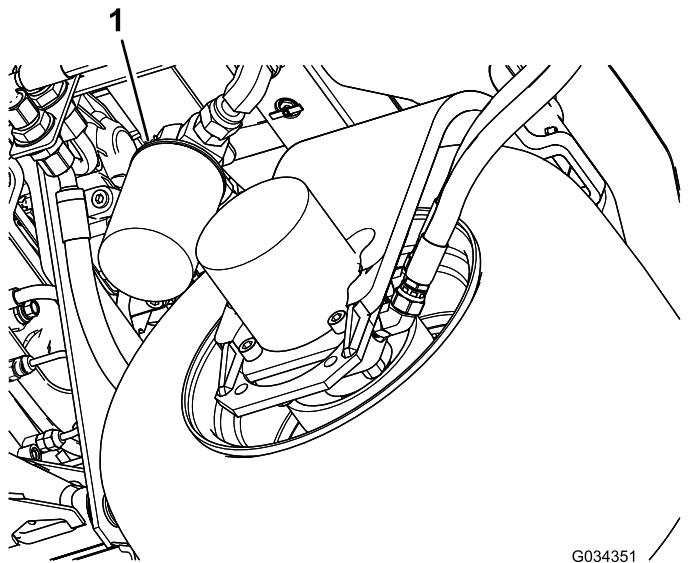

Figure 94
2. Clean around the filter mounting area. Place a drain pan under the filter (Figure 94) and remove the filter.